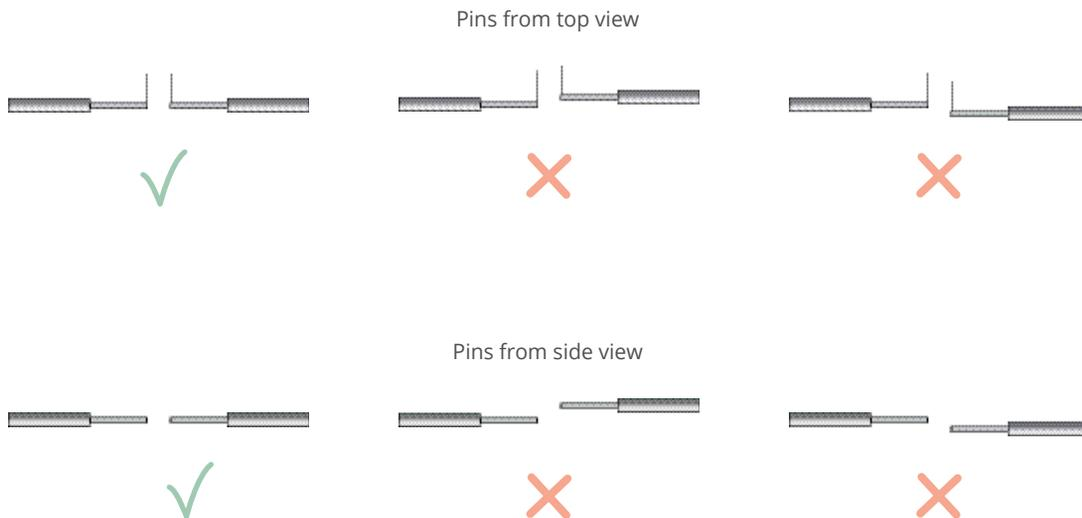
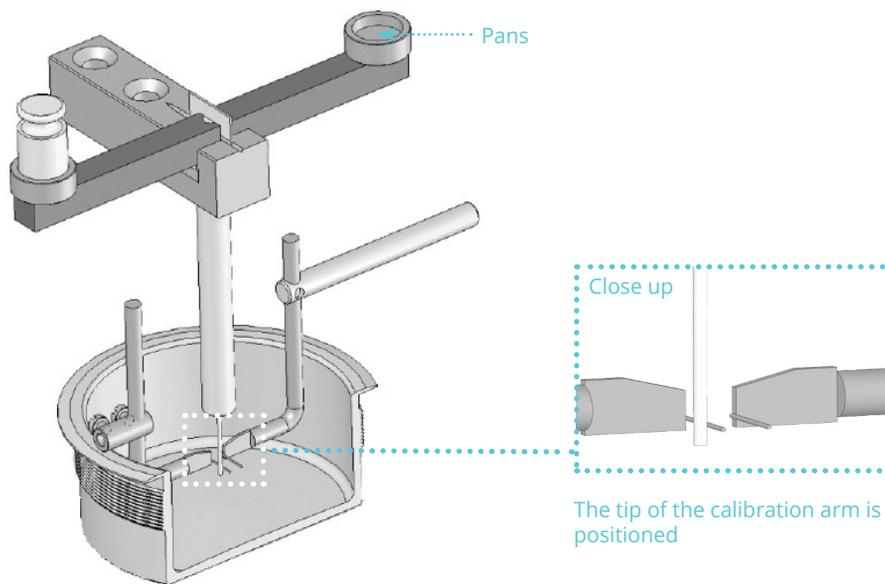

Figure 4.5 - Illustrations of properly aligned pins (depicted on the far left) and incorrectly aligned pins (depicted in the middle and far right).
Figure 4.4 Weight calibration kit shown in place on the chamber
4.1.2 FINE-ADJUSTING THE PINS FOR LARGER VESSELS (FIGURE 4.4 AND FIGURE 4.5):
Force transducer calibration procedure (Figure 4.4)
2. Set up the calibration kit (bridge and balance) on one of the Tissue Bath chambers as illustrated in Figure 4.4 below. Also place the weight on one of the chambers. Turn the heat on as discussed in “3.1.3 Heat menu” on page 15. The system takes about 20 to 30 minutes to reach 37°C. Lower temperatures take less time and higher temperatures take more time to reach. Make sure adequate time is allowed so that calibration can be performed at the temperature at which the experiments will be performed. Placing the calibration kit and weight on the chamber allows them to warm up to the experimental target temperature. There is no need to bubble the chambers while waiting for the system to heat up.
3. When the system reaches target temperature, adjust the calibration kit so that the tip of the calibration arm is as close to the tissue holding pin on the transducer side as possible without touching, as illustrated in Figure 4.4 below. One way to do this is to use the following technique. Start with the calibration kit in place so that the tip of the calibration arm is not touching any part of the tissue holding pins. Go to the main menu displaying the forces, and zero the channel being calibrated so the force reads zero. Slowly and gently slide the calibration kit forward toward the micrometer so that